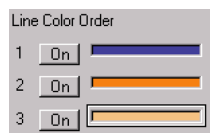

Figure 6.17 *Selected line/area color sample*
- 1 In the **Line Color Order** group box in the **Select Line Colors** dialog box, select the color sample of the color you wish to replace. The third color in the sequence is selected in the following example (see Figure 6.17).